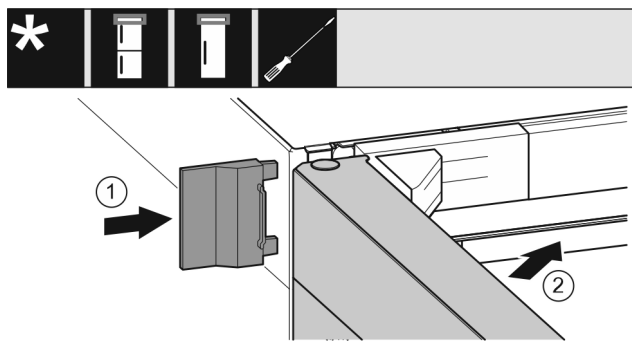

Fig. 25
- ▶ Push the outer cover Fig. 25 (1) on.
- ▶ Close the upper door Fig. 25 (2).